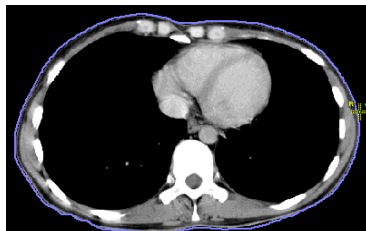

Figure 275 – Defining the right point of the bolus
- The cursor is now marked as **R**. Click the rightmost point of the bolus, as described above for the leftmost point (see Figure 275).